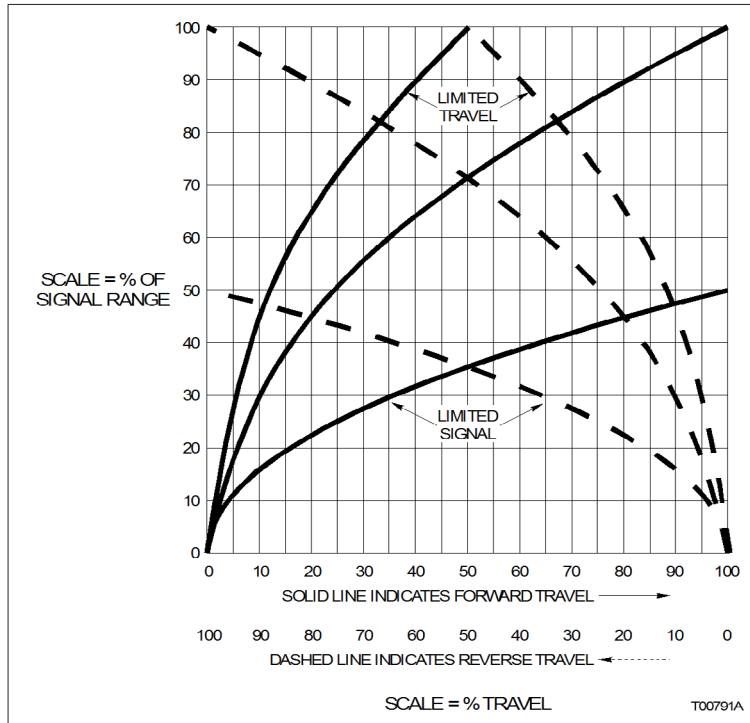

Figure C-1. Cam A, Square Root Relationship
The control characteristics for which the cams are shaped are listed in Table 3-1 and are shown in Figures C-1, C-2 and C-3. The figures show a family of curves for each cam whose boundaries are established by a span adjustment.
4. Compare the curve plotted in Step 3 with the cam curves shown in Figures C-1, C-2 and C-3. Select a standard cam shape (in this case a C cam) whose characteristic most closely matches the control signal versus piston (or valve) characteristic plotted in Step 3.
NOTE: Before cutting any cam, make sure that shaping will involve removal of cam material and not building up of cam material. For example, if the characteristic plotted lies between the A and B cams (Figs. C-1 and C-2), cut the A cam away.